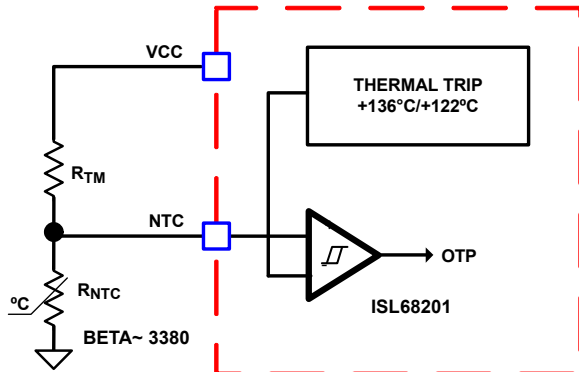
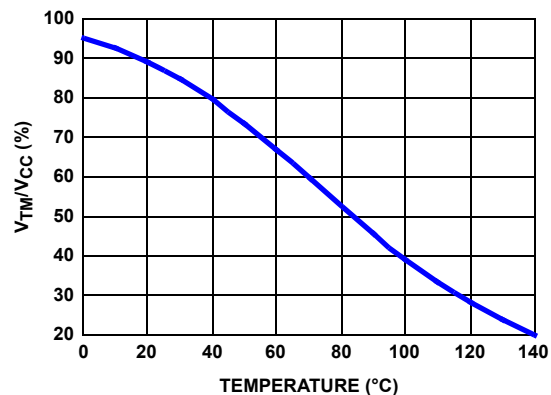

FIGURE 16. BLOCK DIAGRAM OF THERMAL MONITORING AND PROTECTION
FIGURE 18. THE RATIO OF TM VOLTAGE TO NTC TEMPERATURE WITH RECOMMENDED PART
The thermal monitoring function block diagram is shown in Figure 16 on page 18. One NTC resistor should be placed close to the respective power stage of the voltage regulator VR to sense the operational temperature, and pull-up resistors are needed to form the voltage dividers for the NTC pin. As the temperature of the power stage increases, the resistance of the NTC reduces, resulting in the reduced voltage at the NTC pin. Figure 18 on page 18 shows the TM voltage over the temperature for a typical design with a recommended 10kΩ NTC (P/N: NCP15XH103J03RC from Murata,  $\beta = 3380$ ) and 1.54kΩ resistor  $R_{TM}$ . It is recommended to use those resistors for accurate temperature compensation because the internal thermal digital code is developed based on these two components. If a different value is used, the temperature coefficient must be close to 3380 and  $R_{TM}$  must be scaled accordingly. For instance, if  $NTC = 20k\Omega$  ( $\beta = 3380$ ), then  $R_{TM}$  should be  $20k\Omega/10k\Omega * 1.54k\Omega = 3.08k\Omega$ .
Based on the  $V_{CC}$  voltage, the ISL68201 converts the NTC pin voltage to a digital signal for temperature compensation. With the nonlinear A/D converter of the ISL68201, the NTC digital signal is linearly proportional to the NTC temperature. For accurate temperature compensation, the ratio of the NTC voltage to the NTC temperature of the practical design should be similar to that in Figure 18.
1. Properly choose the voltage divider for the NTC pin to match the NTC voltage vs temperature curve with the recommended curve in Figure 18 on page 18.
As shown in Figure 16 on page 18, there is a comparator with hysteresis to compare the NTC pin voltage to the threshold set. When the NTC pin voltage is lower than 22.31% of the VCC voltage (typically +136°C), it triggers Over-Temperature Protection (OTP) and shuts down the ISL68201. When the NTC pin voltage is above 27.79% of the VCC voltage (typically +122.4°C), the ISL68201 resumes normal operation. When an OTP fault is declared, the controller forces the LGATE and UGATE gate-driver outputs low.